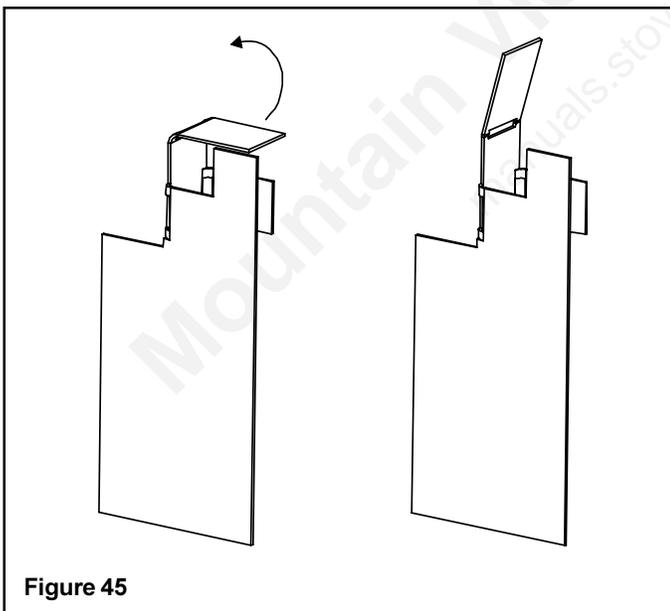

Figure 45
- Bend top retaining tab of grate shipping support into vertical position (see Figure 45).